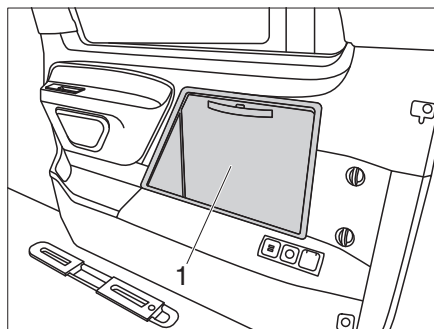
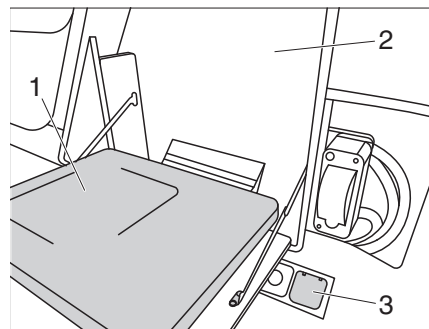

Fig. 27 Access flap
Fig. 28 Induction hob power supply
The induction hob in the VANSTAR is located underneath the induction hob access flap (Fig. 27,1) on the right side of the vehicle.
- Open the induction hob's access flap (Fig. 27,1) and fold downwards (Fig. 28).
- Insert the induction hob's (Fig. 28,1) mains plug into the outlet (Fig. 28,3).
- Setting up the spray guard (Fig. 28,2).